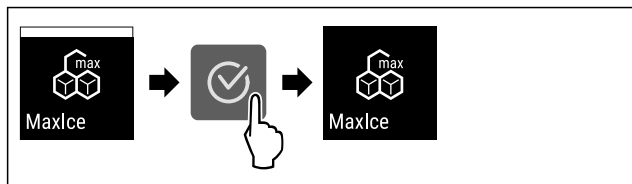

Fig. 23
- ▶ Complete the steps (see Fig. 23).